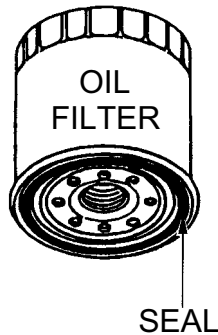

Figure 27. Oil Filter
- Using a filter wrench, turn filter cartridge (Figure 27) to the left to remove it. If the filter cartridge is filled with a large amount of oil, wait 10 minutes or so before removing. Make sure there is no old gasket stuck on the filter holder.